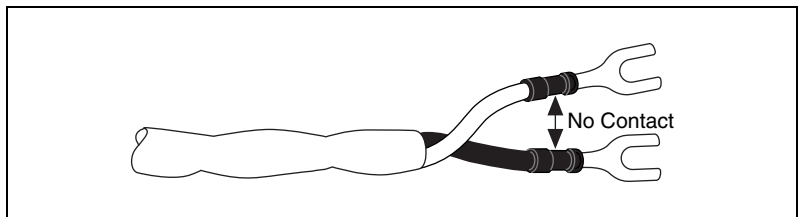

Figure 3. Avoiding Contact Between Heat-Shrink Tubing
- When using heat-shrink tubing, do *not* allow the heat-shrink tubing around neighboring wires to touch, as Figure 3 shows.